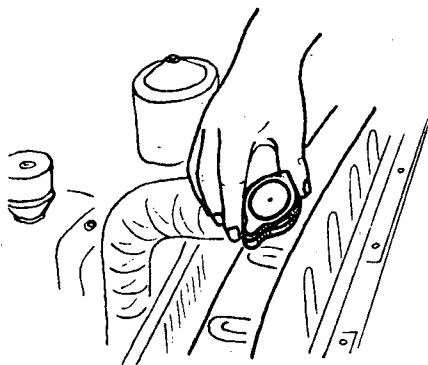

Fig. 1
- a) Press, turn and remove the radiator cover (fig. 1).